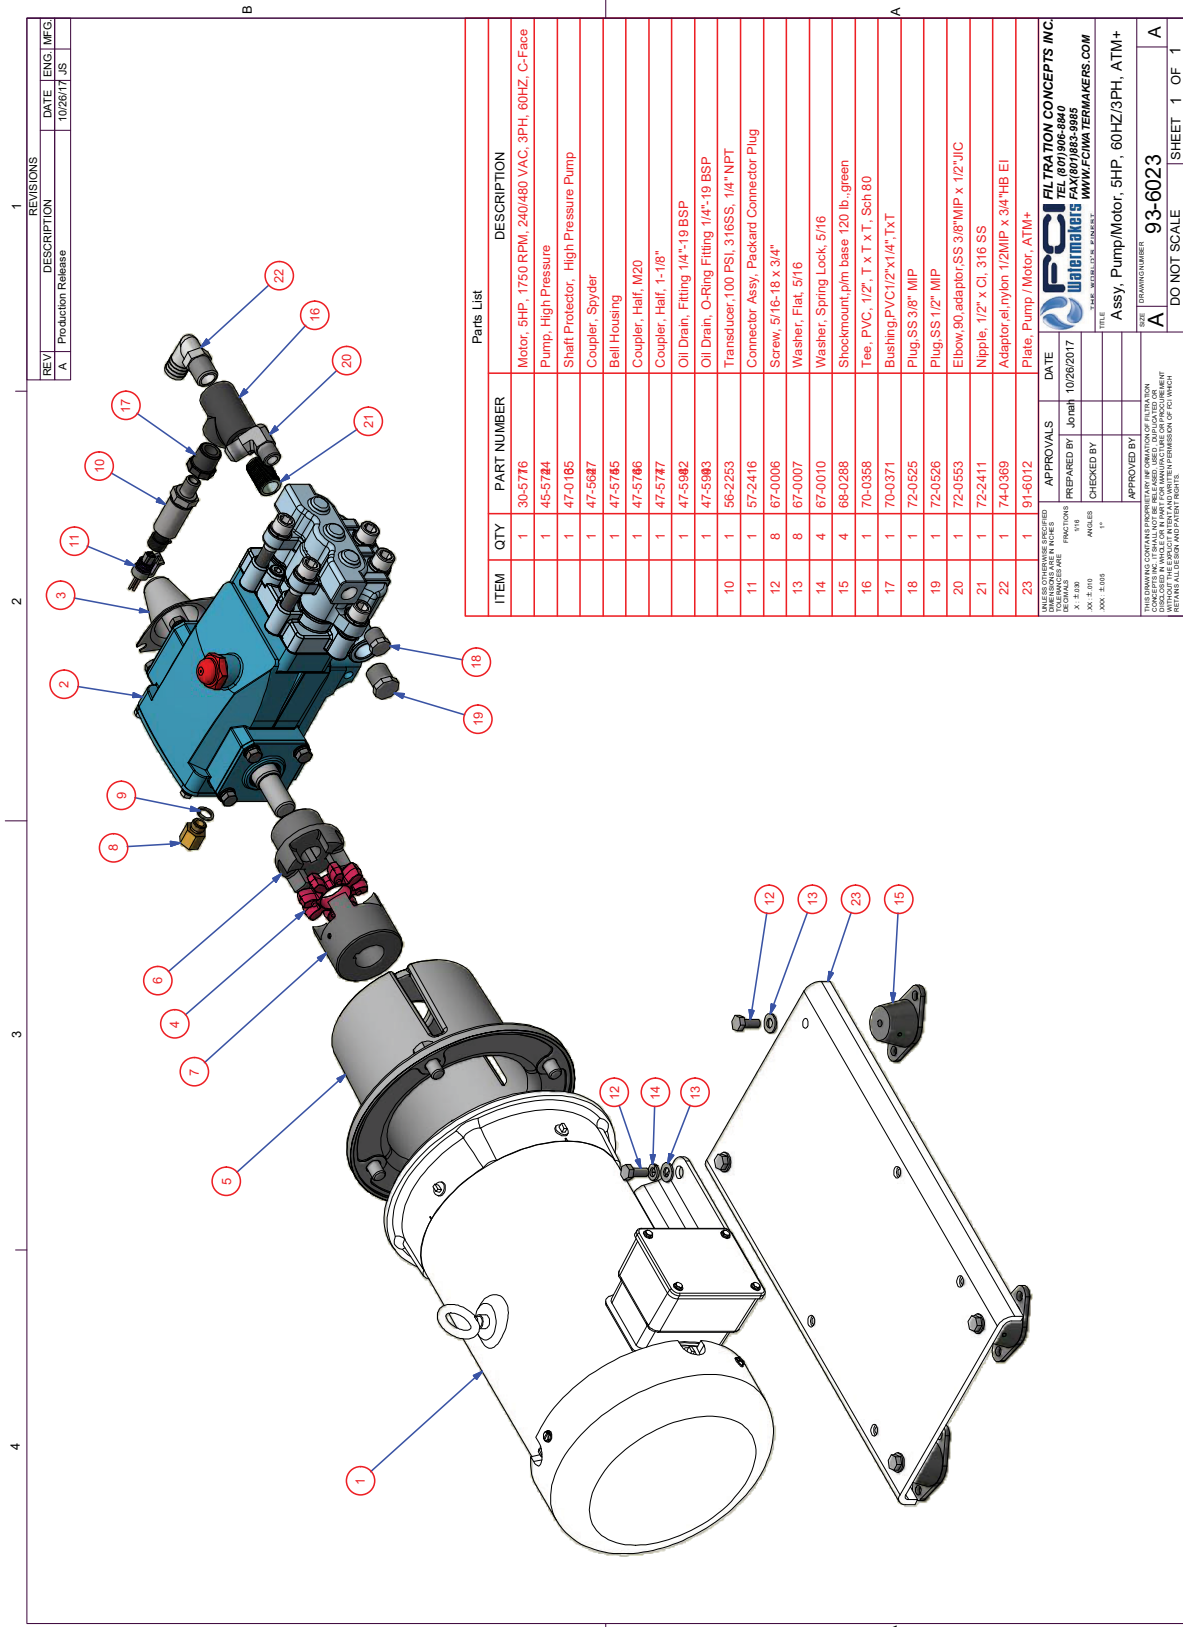

Figure 29: High Pressure Pump Assembly Drawing (3-Phase 60 Hz)
- "Figure 29: High Pressure Pump Assembly Drawing (3-Phase 60 Hz)" on page 123